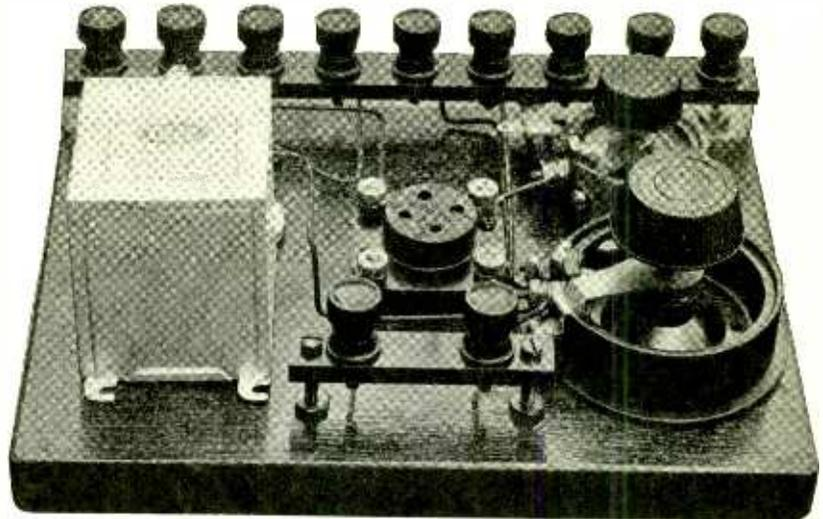

Fig. 1. Vacuum Tube Voltmeter Having Zero Frequency Error
The use of these equations may be illustrated by the calculations for the meter shown in Fig. 1. This meter has a 0-2.7 volt range, employs a '99 tube, and a 0-100 microampere plate meter. Equation (1) gives the grid bias: